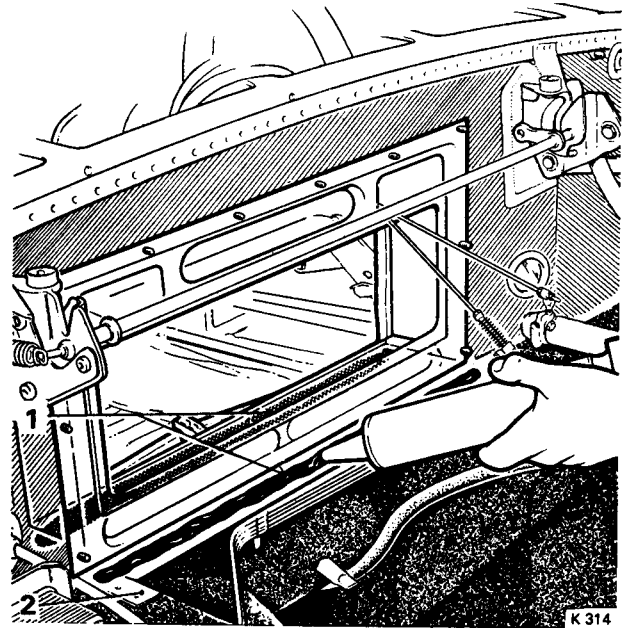

FIG. C5 CONTROL BOX FITTED INTO BULKHEAD APERTURE
2. Using a sealing compound such as 'Glasticon' or its equivalent, seal the lower joint between the control box and the bulkhead (see Fig. C5).